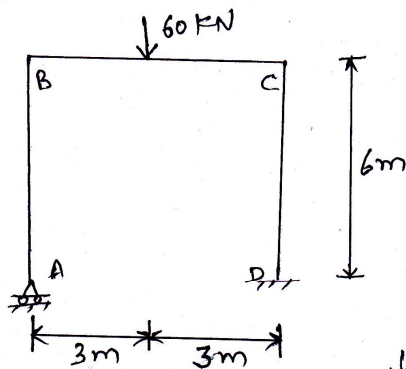

Fig. 5
- Q.4** (a) Obtain assembled flexibility matrix for the plane frame shown in Figure 5. Flexural rigidity of all members is constant. **07**
- Q.4** (b) Calculate support reactions for the plane frame shown in Figure 5 using flexibility member approach. **07**